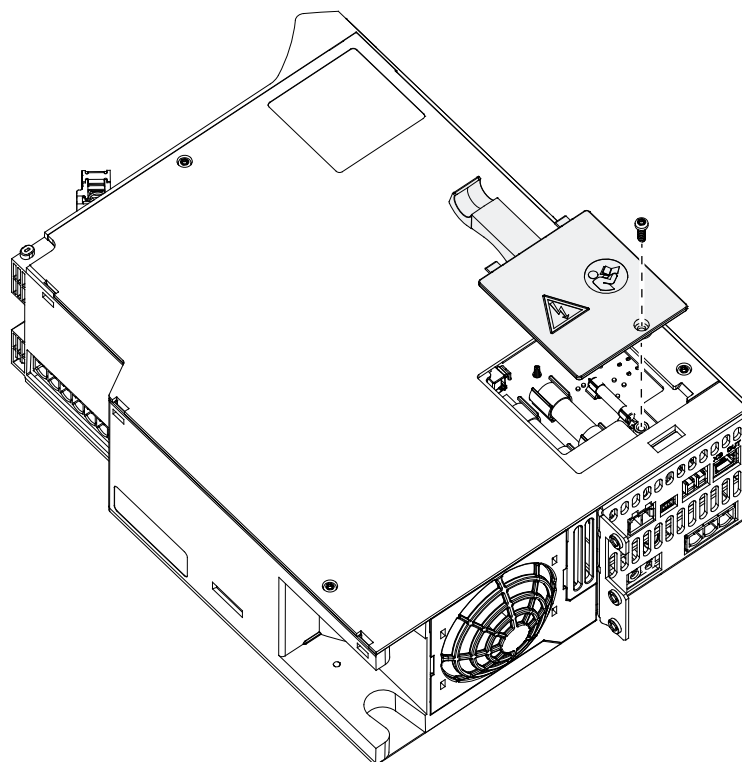

Figure 104: Opening the Cover on DAM Option
3. Reinstall the cover with 1 screw, and tighten the screw (see Figure 104).